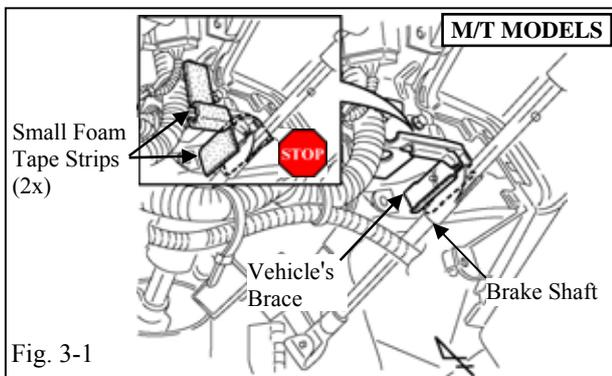

Fig. 3-1
- (a) Attach two small foam tape strips to the vehicle's brace as shown. (Fig. 3-1)
- (1) (1) Do not attach anything to the brake shaft.